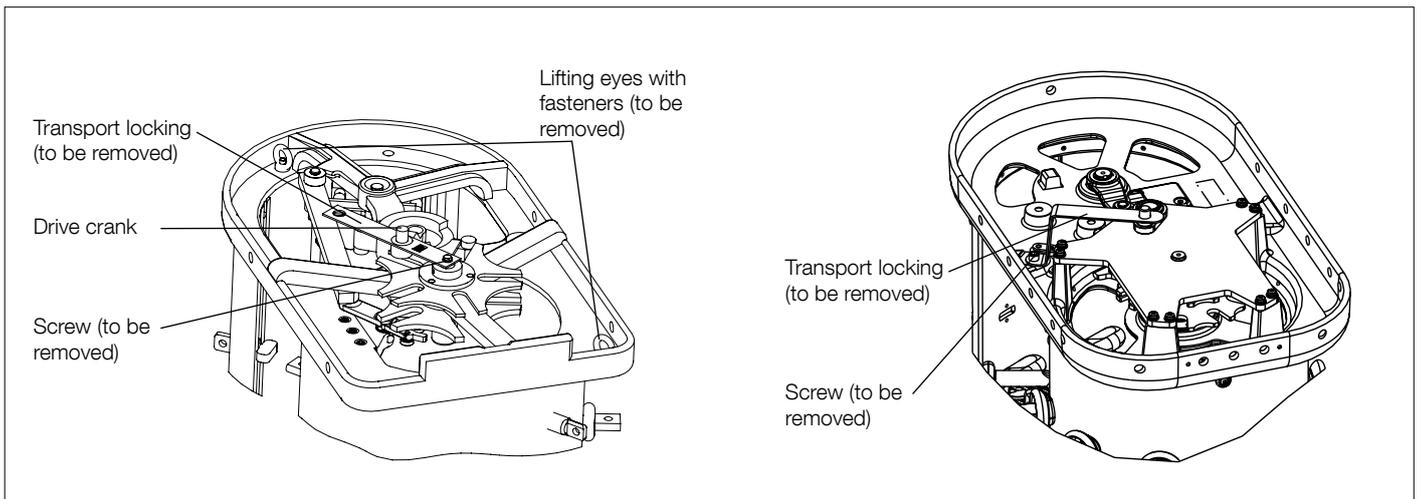

Fig. 8. Top view, tap selector size III (left), and tap selector size F (right).
6. Remove the transport locking and the lifting eyes with fasteners from the top section of the tap selector; see Fig. 8.